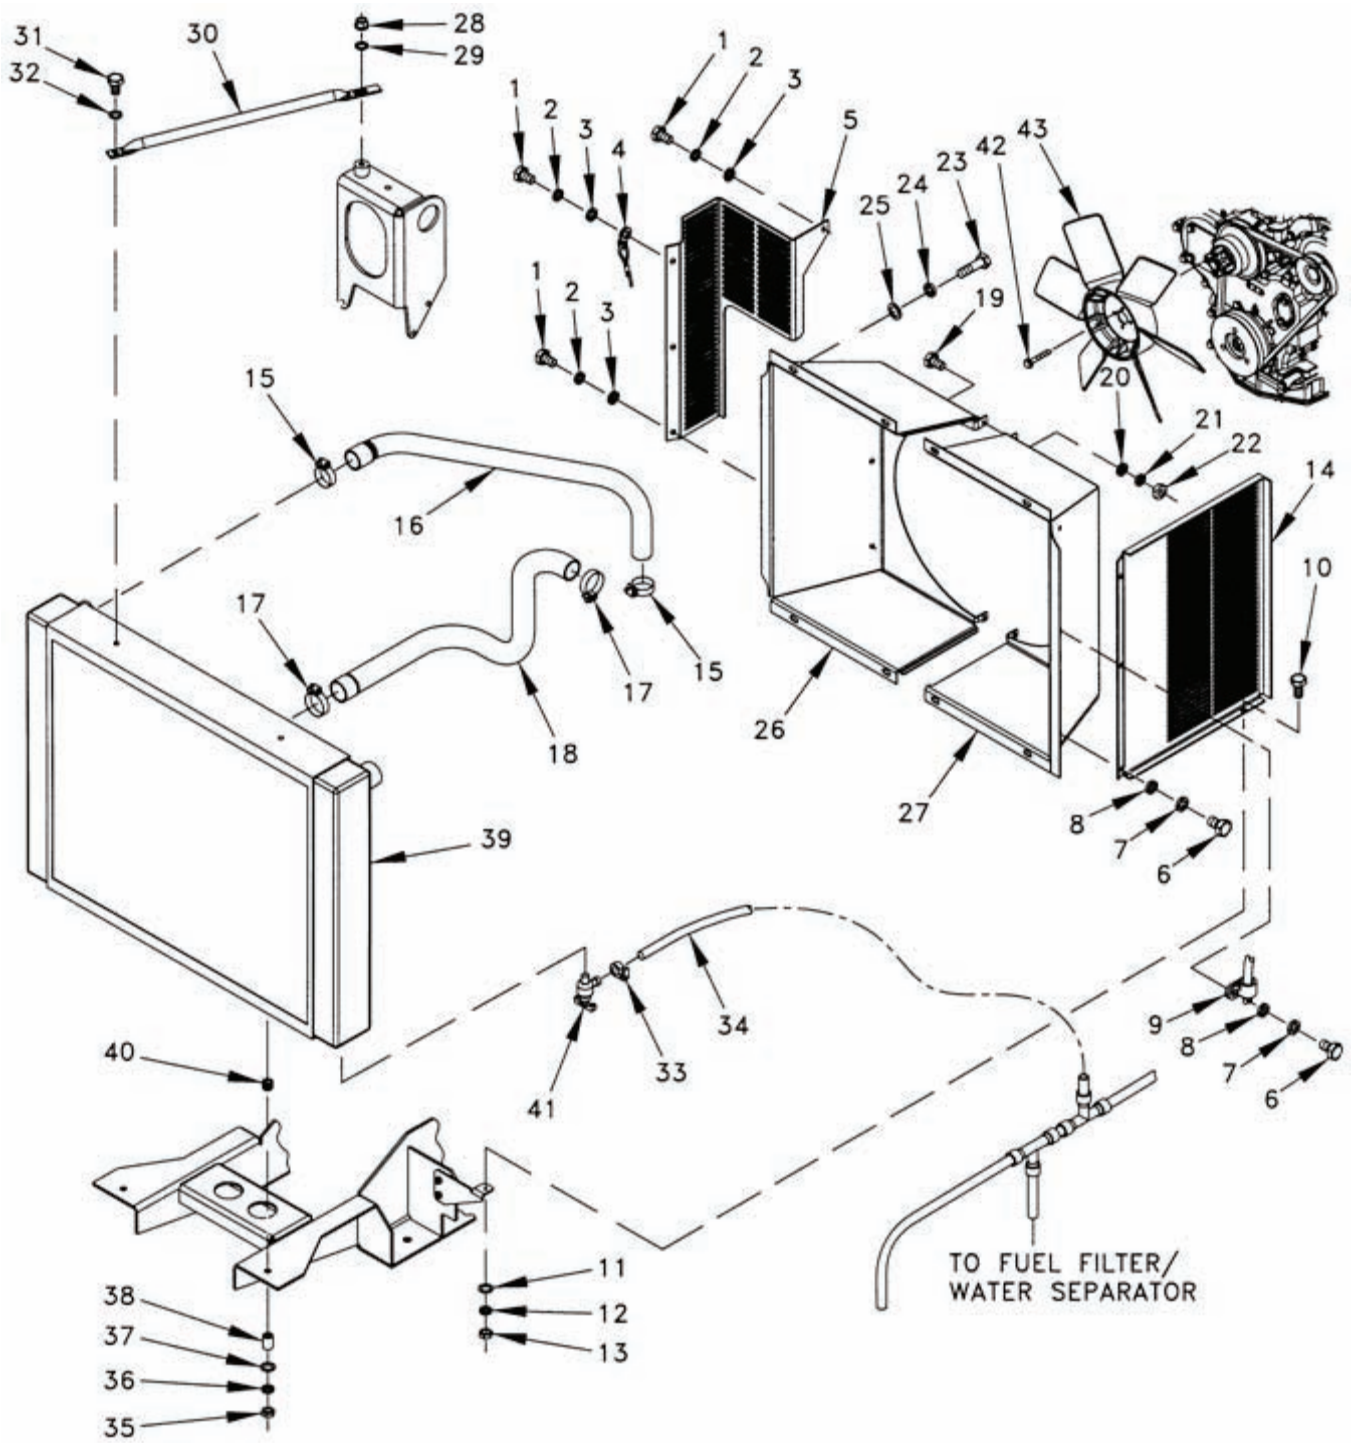

Figure 2-26. Coolant System – MEP-804B/MEP-814B.
- c. Remove bolts (1, Figure 2-26), lock washers (2), washers (3), chain (4) for oil fill cap, and right fan guard (5). Discard lock washers (2).
- d. Remove bolts (6), lock washers (7), washers (8), clamp (9), screw (10), lock washer (11), washer (12), nut (13), and left fan guard (14). Discard lock washers (7 and 11).
- a. Install bolts (6, Figure 2-26), new lock washers (7), washers (8), clamp (9), screw (10), new lock washer (11), washer (12), nut (13), and left fan guard (14).
- b. Install bolts (1), new lock washers (2), washers (3), chain (4) for oil fill cap, and right fan guard (5).
- e. Open radiator drain valve (41, Figure 2-26) and drain coolant/antifreeze into suitable container.
- f. Loosen clamps (15).
- g. Remove upper coolant hose (16) and clamps (15).
- c. Inspect upper coolant hose (16, Figure 2-26) for cracks, holes, and dry rot.
- a. Install upper coolant hose (16, Figure 2-26) on thermostat housing opening and radiator (39) with clamps (15).
- b. Close radiator drain valve (41) and add coolant/antifreeze to proper level (paragraph 2-1.2.2).